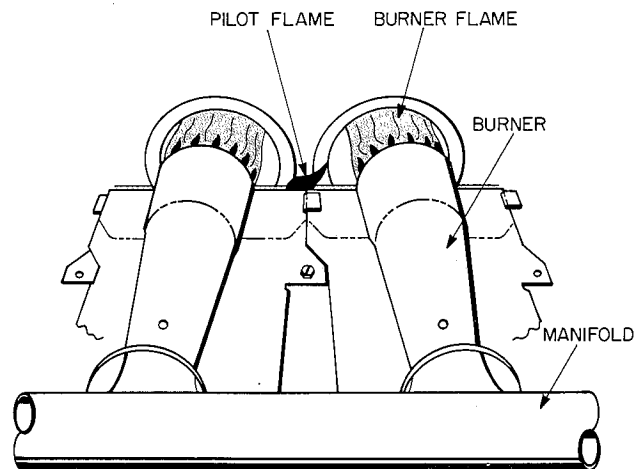

Fig. 5—Proper Pilot and Burner Flames
4. Look through sight glass in burner enclosure and check burner and pilot flame. The main burner flame should be clear blue, almost transparent. The pilot flame should be well defined. See Fig. 5.